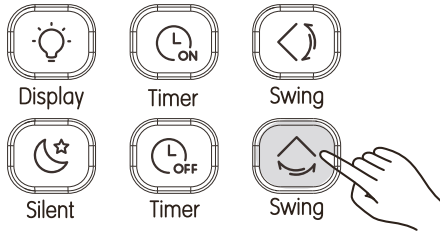

fig. 16
- When the unit is on. Press (see "fig. 16"). Start the horizontal swing function, and will light up, and signal is sent to the indoor unit;